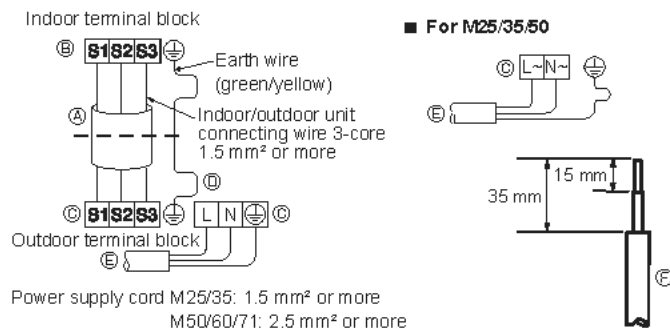
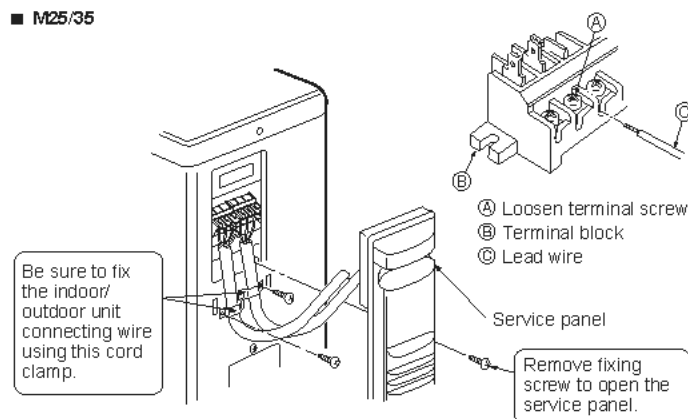
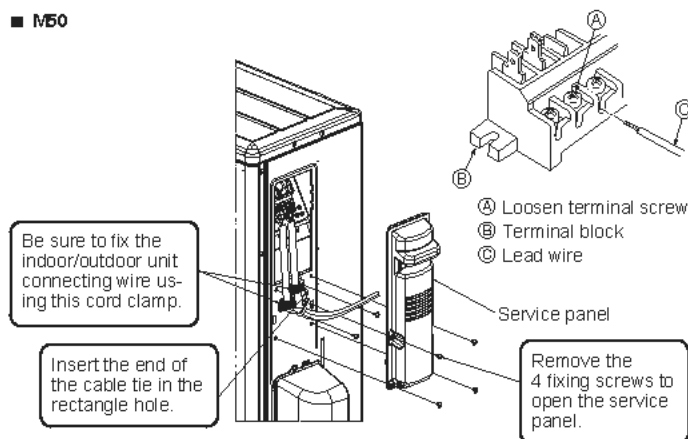
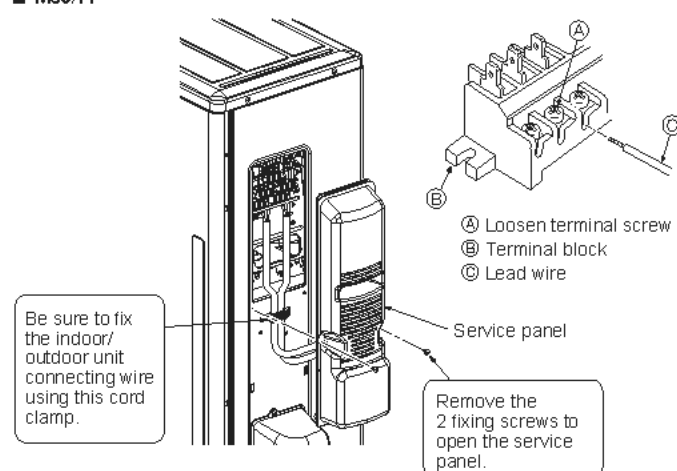

Fig. 6-2
Fig. 6-3
Fig. 6-4
Fig. 6-5
6.1. Outdoor unit (Fig. 6-1, Fig. 6-2, Fig. 6-3, Fig. 6-4, Fig. 6-5)
- ① Remove the service panel.
- ② Wire the cables referring to the Fig. 6-1, Fig. 6-2, Fig. 6-3, Fig. 6-4 and the Fig. 6-5.
- Perform wiring as shown in the diagram to the lower left. (Procure the cable locally) (Fig. 6-2)
- ① Connecting cable
- ② Indoor terminal block
- ③ Outdoor terminal block
- ④ Always install an earth wire longer than other cables.
- ⑤ Power supply cord
- ⑥ Lead wire